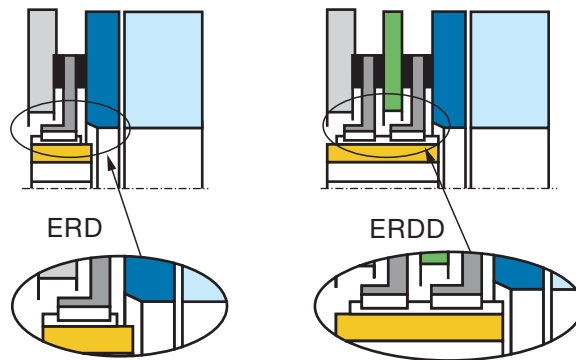

Fig. 2
-  It is important to note the hub mounting directions (See Fig. 2).
NOTE: The angle of the friction discs must be facing the friction plate (see Fig. 2).